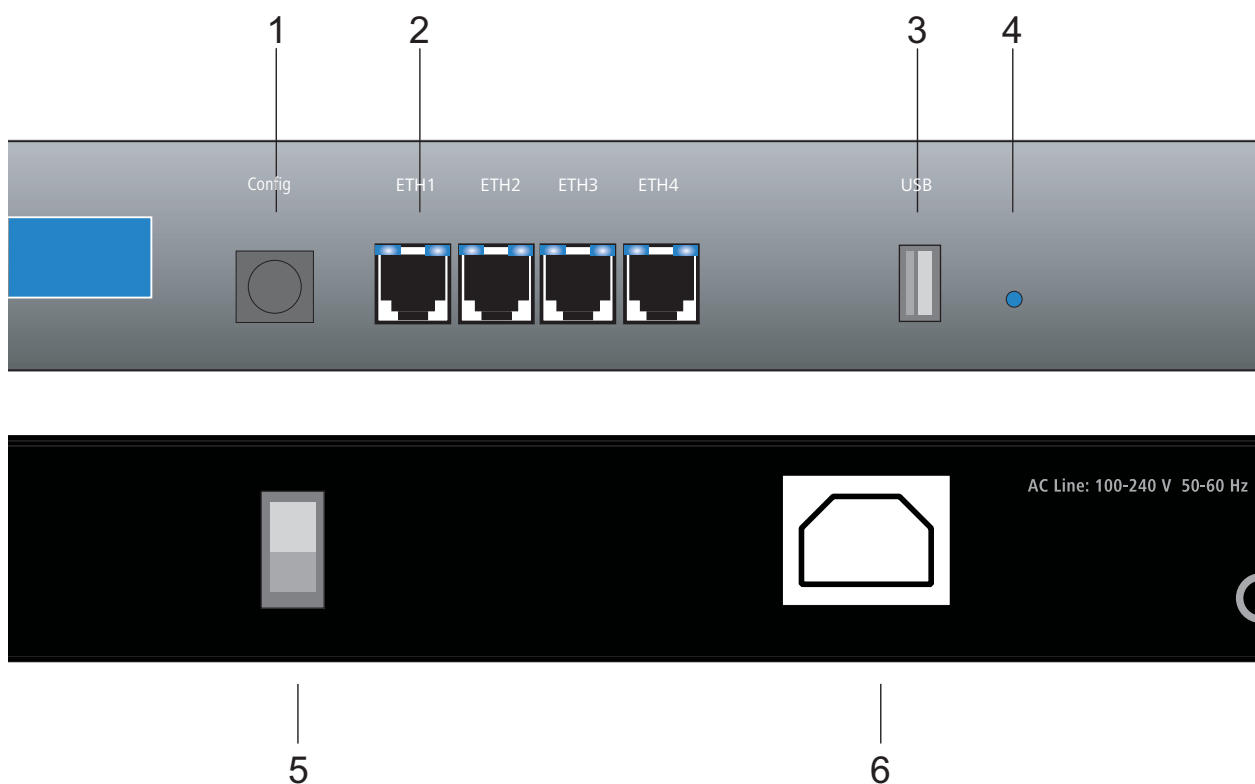

Figure 2: Device connectors in WLAN Controller
- LAN – Firstly connect your BAT-Controller WLC to the LAN. Plug one end of the supplied network cable (green connectors) into an Ethernet port on the device (figure 2, position 2) and the other end into an available network connector socket in your local network. The Ethernet ports use autosensing to recognize the data rate (10/100/1000 Mbps) and the type (MBI/MBI-X) of attached network devices. You can connect devices of different speeds and types in parallel.
- Configuration interface – optionally, connect the device directly to the serial interface (RS-232, V.24) of a PC. Use the included serial configuration cable for this connection. Connect the configuration interface (figure 2, position 1) to an available serial interface on the PC.
- Supply power and switch on – supply power to the device by using the power connection (figure 2, position 6). Afterwards, switch it on by using the switch located on the rear panel (figure 2, position 5).